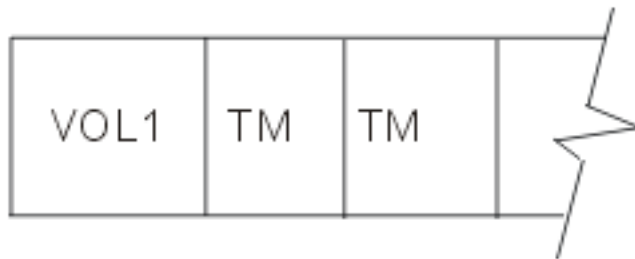

Figure 3. Volume label and tape marks
In Figure 3, the INZTAP command gives the tape a volume label (marked VOL1) and writes two tape marks (TM).